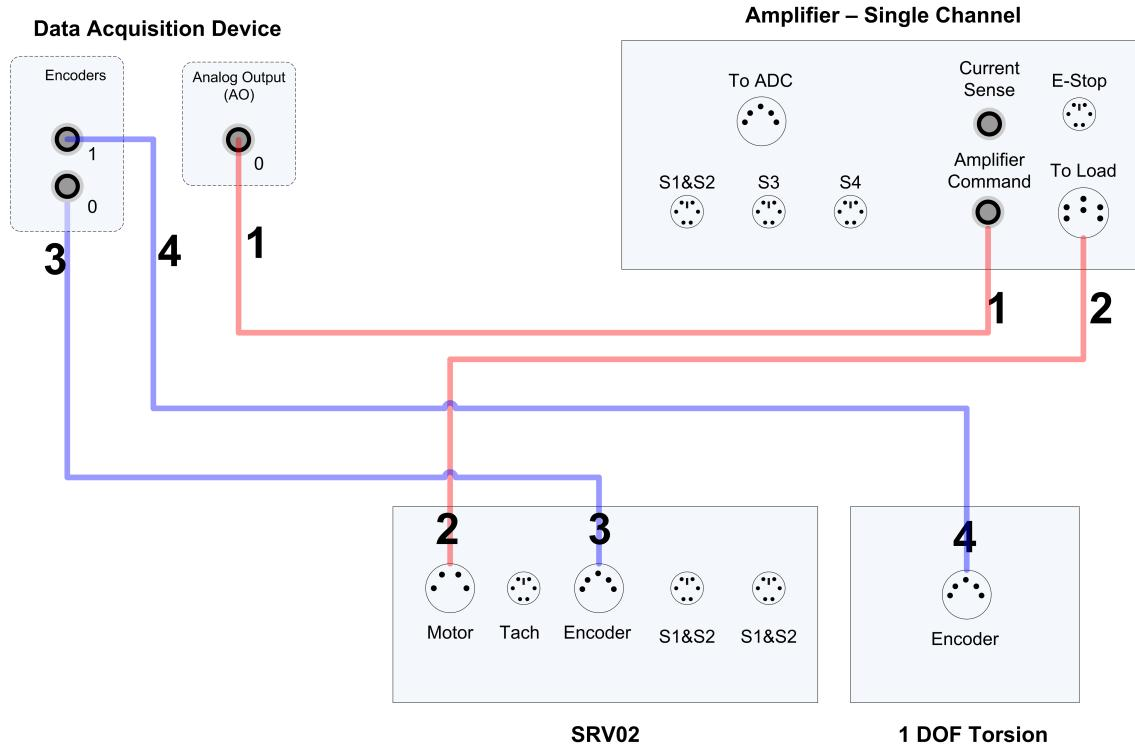
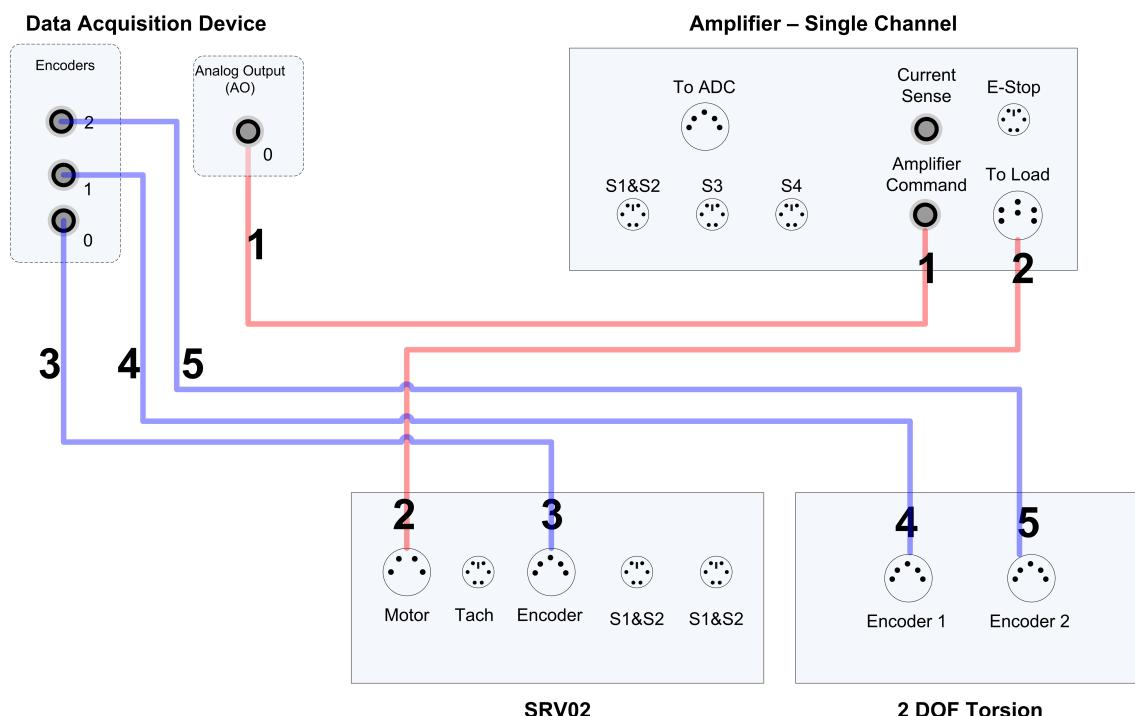

Figure 5.1: Connecting the 1-DOF Torsion System to the DAQ Device and Power Amplifier
Figure 5.2: Connecting the 2-DOF Torsion System to the DAQ Device and Power Amplifier
This section describes the typical connections used to connect the SRV02 1-DOF Torsion system to a data-acquisition device and the power amplifier. The connections are shown in Figure 5.1 and given in Table 5.2. Wiring details are
3. Connect the one of the ends of the 2xRCA to 2xRCA cable from the *Analog Output Channel #0* on the terminal board to the *Amplifier Command* connector on the amplifier that will be connected to SRV02. See cable #1 shown in Figure 5.1 and Figure 5.2. This carries the attenuated SRV02 motor voltage control signal, V_m/K_a , where K_a is the amplifier gain.
4. Connect the 4-pin-stereo-DIN to 6-pin-stereo-DIN that from the *To Load* on the amplifier to the *Motor* connector on the SRV02. See connection #2 shown in Figure 5.1 and Figure 5.2. The cable transmits the amplified voltage that is applied to the SRV02 motor and is denoted by V_m .
5. Connect the 5-pin-stereo-DIN to 5-pin-stereo-DIN cable from the *Encoder* connector on the SRV02 A panel to *Input # 0* on the terminal board, as depicted by connection #3 in Figure 5.1. This carries the SRV02 load shaft angle measurement and is denoted by the variable θ_1 .
6. Connect the 5-pin-stereo-DIN to 5-pin-stereo-DIN cable from the *Encoder* connector on the Torsion module panel to *Input # 1* on the terminal board, as depicted by connection #4 in Figure 5.1. This carries the 1-DOF Torsion load shaft angle measurement and is denoted by the variable θ_2 .
2. Connect the 5-pin-stereo-DIN to 5-pin-stereo-DIN cable from the *Encoder* connector on the second Torsion module panel to *Encoder Input # 2* on the terminal board, as depicted by connection #5 in Figure 5.2. This carries the 2-DOF Torsion load shaft angle measurement and is denoted by the variable θ_3 .